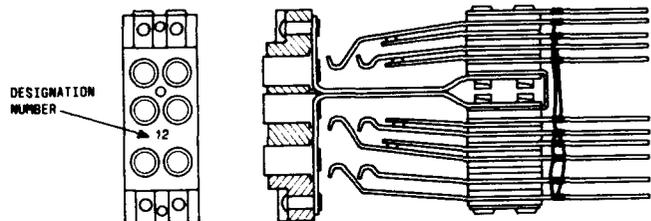

Fig. 2—KS-21156, L1 Through L31, Jacks
2.02 **KS-21156, L1 Through L31:** The KS-21156, L1 through L31, jacks (Fig. 2) consist of